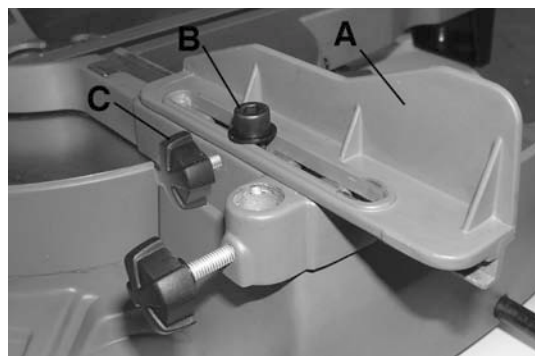

Figure 7
This miter saw comes with a back fence with fence extensions (A) Fig.7 at both ends which slide outwards for additional back support for those long workpieces. Please note that during steep bevel cut operations, these fence extensions must be fully extended to not interfere with the motor housing or blade guard. To adjust the position of each fence extension;
1. Loosen the fence extension cap screw (B) using supplied hex. key.
2. Loosen the fence extension rear lock knob (C).